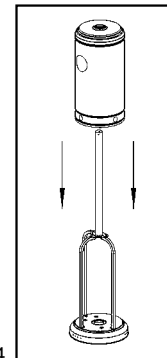

Figure 3
B. Install post with 6 M6X35 bolts and 6 nuts M6 (Figure 3).